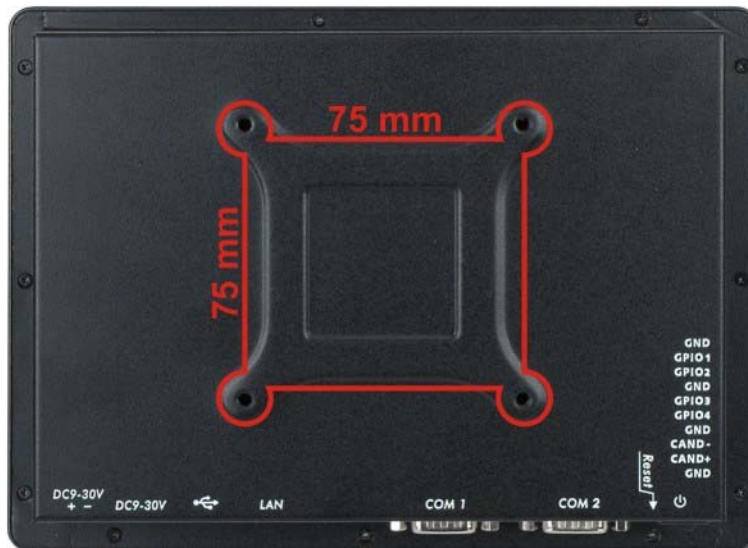

Figure 3-8: Arm Mounting Retention Screw Holes
- Step 3:** Align the retention screw holes on the mounting arm interface with those in the IOVU-07F-AD, as shown in **Figure 3-8**.